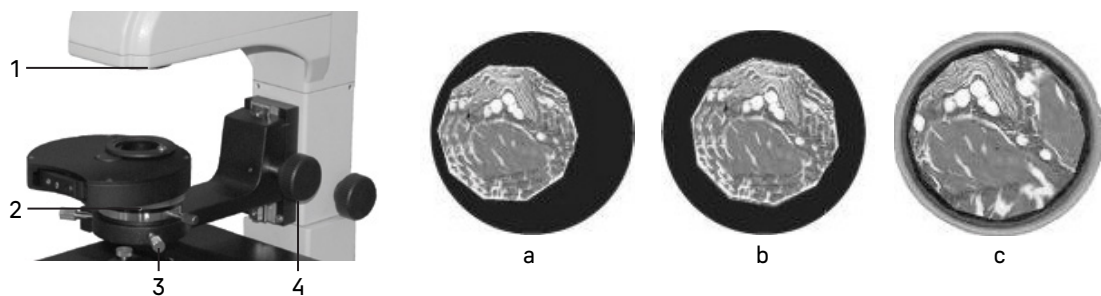

Fig. 15. Setting up Köhler illumination
- Open the aperture diaphragm **2** and close the field diaphragm **1**. A light spot will be visible in the field of view showing the edges of the diaphragms, as shown in Fig. 15.